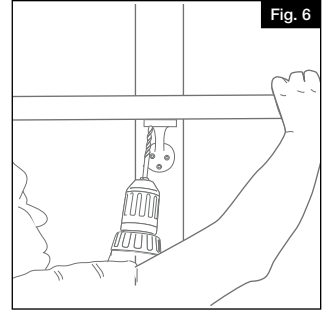

Fig. 6
- d. After Hand Rail has been mounted, pre-drill the Hand Rail lineal with a $\frac{13}{64}$ " drill bit and attach to the bracket to the lineal using the provided fasteners (Fig. 6).